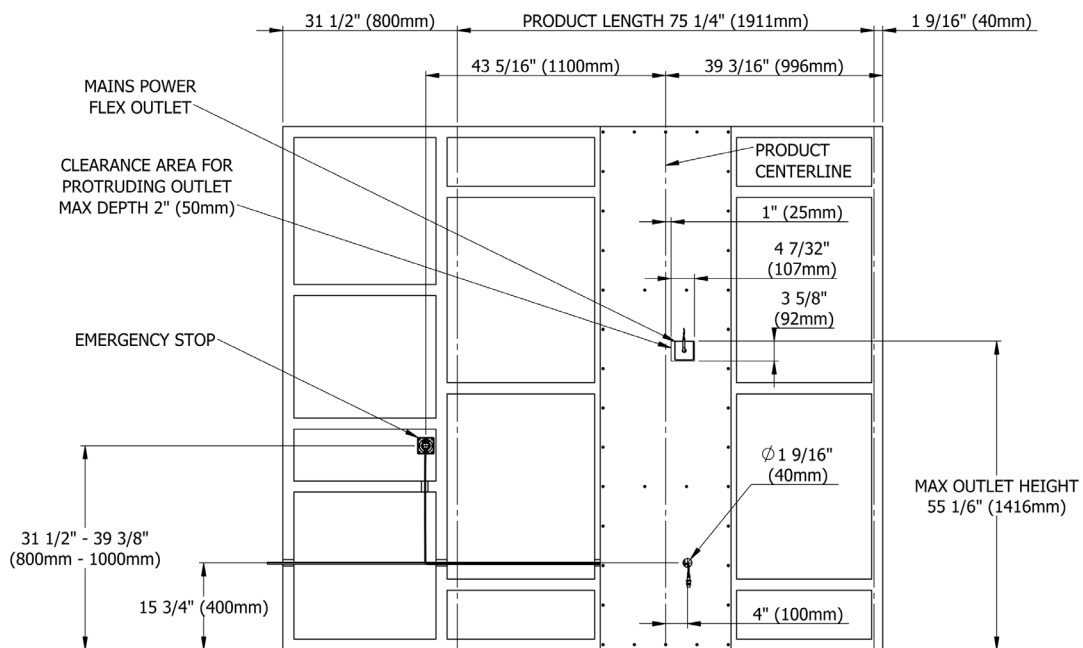

Fig 11.2 Emergency stop & switch, waterproof, flex outlet
- The provided emergency stop must be fitted at the position shown in Fig 11.2.
- Provision needs to be made to allow the cable to be traced in through the wooden frame and remain hidden behind the dry wall/plasterboard. At least 11 13/16" (300 mm) of cable should come through the marine plywood at the position shown in Fig 11.2. Alternatively a Mains Power Cable (H07RNF, 1 mm² CSA 50m, 450/750 Vac) may be laid into the wall and the Emergency Stop may be afixed to the end.
- If the cord enters the junction box from below it is recommended to fit a suitable waterproof flex outlet cover/faceplate. This must be fitted sub-flush to the wall or within the clearance area shown in figure 11.2. The maximum dimensions for a surface mounted outlet are 3 5/8" (92mm) tall, 4 7/32" (107mm) wide and 2" (50mm) deep.
- The Emergency Stop has been fitted at the position shown in Fig 11.2. The cable has been hidden in the wall and at least 11 13/16" (300 mm) of cable is coming out of the wall.
- The switched, waterproof flex outlet has been fitted in the position shown in Fig 11.2, is no larger than the stated dimensions and flush or sub-flush with the wall.
- Position the SBU against the wall in the approximate mounting position which will allow the mains power cable to reach the junction box or puts the flex outlet within the defined clearance area (Figure 11.2).